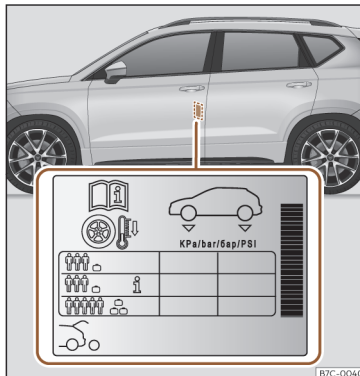

Fig. 204 Location of the tyre pressure sticker.
- Adjust tyre pressure to the load being carried by the vehicle»» **Fig. 204**.
The tyre inflation pressures are listed on a sticker on the rear of the front left door frame»» **Fig. 204**.
Depending on the vehicle, tyre pressure can be adjusted to medium load to improve driving comfort (tyre pressure **i**)»» **Fig. 204**). When driving with comfort tyre pressure fuel consumption may increase slightly.
The tyre pressure must be adjusted according to the load the vehicle is carrying. If the vehicle is going to carry the maximum load, the tyre pressure should be increased to the maximum value indicated on the sticker »» **Fig. 204**.
In the case of a minimised temporary spare wheel (125/70 R18) inflate to a pressure of 4.2 bar as indicated on the tyre pressure label»» **Fig. 204**.
- The driver is responsible for ensuring that all of the vehicle tyres are correctly inflated to the right pressure. The recommended tyre pressure is indicated on the label »» **Fig. 204**.
- When the tyres are cold, tyre pressure should be that indicated on the label »» **Fig. 204**.